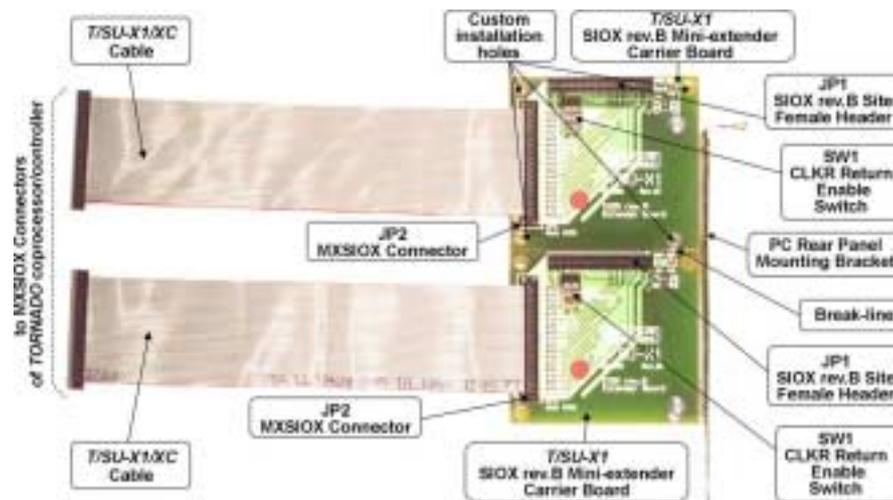

Fig.B-1. Dual *T/SU-X1 SIOX rev.B* mini-extender with mounting bracket and connection cables.
*T/SU-X1 SIOX rev.B* mini-extender kit is normally provided as dual SIOX rev.B mini-extender kit (fig.B-1), which comprises of the following components:
Dual *T/SU-X1 SIOX rev.B* mini-extender can either mount at the rear panel of PC using installed mounting bracket, or can be hand-broken into two identical *T/SU-X1 SIOX rev.B* mini-extenders using on-board perforated broke line (fig.B-1).